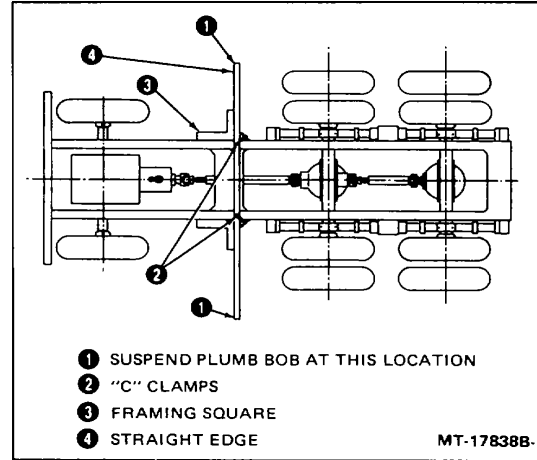

Figure 2 - Plumb Bob Locations
2. Suspend a plumb bob from the straightedge in front of the tire and on outboard side of the forward rear axle on 6 x 4 vehicles or rear axle on 4 x 2 vehicles. (See Figure 2.)